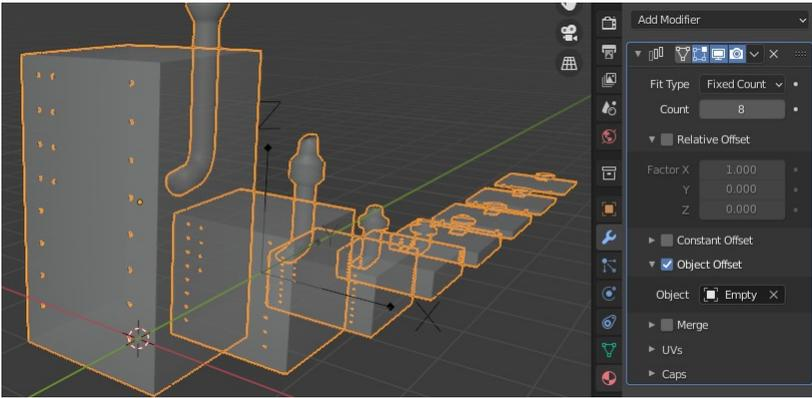

Figure 4-5 Object Offset scaling issue
3. Now set the array offset object. Re-select the fridge0 object and in the Object field select the empty object. You should see something odd but to make it a bit clearer increase the Count to 8 and move the empty object a small distance in the Y direction (see Figure 4-5)